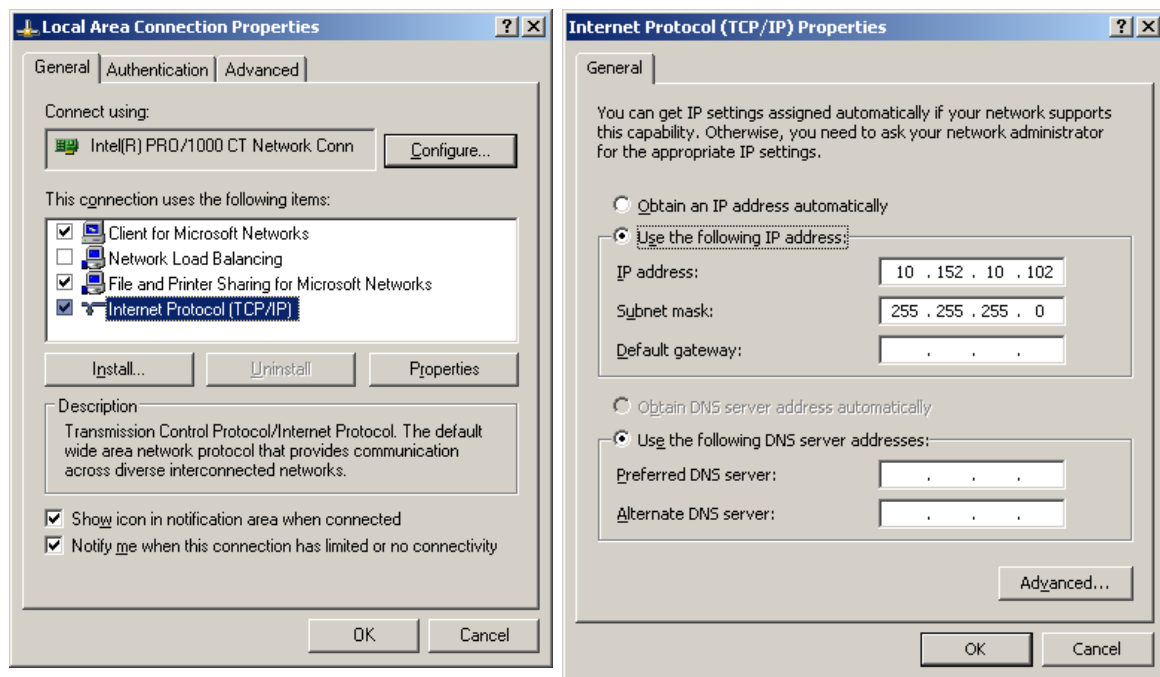

Fig. 24: Changing the IP address of the host PC to connect to the ECU
- Open the network settings by clicking on *Start* → *Settings* → *Network Connections*. In the *Network Connections* dialog, click with the right mouse button on the icon of the *Local Area Connection*, and select *Properties* to open the *Local Area Connection Properties* dialog (Fig. 24, left).
- The *Internet Protocol (TCP/IP) Properties* dialog appears (Fig. 24, right). **Write down the original settings shown in this dialog to restore them later.**